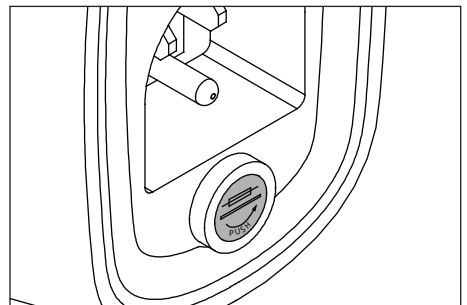

Figure 7 - Replace Fuse
6. When item reaches desired firmness, press power button again to stop inflation. The actual pressure will then read on digital gauge. (See Figure 7).